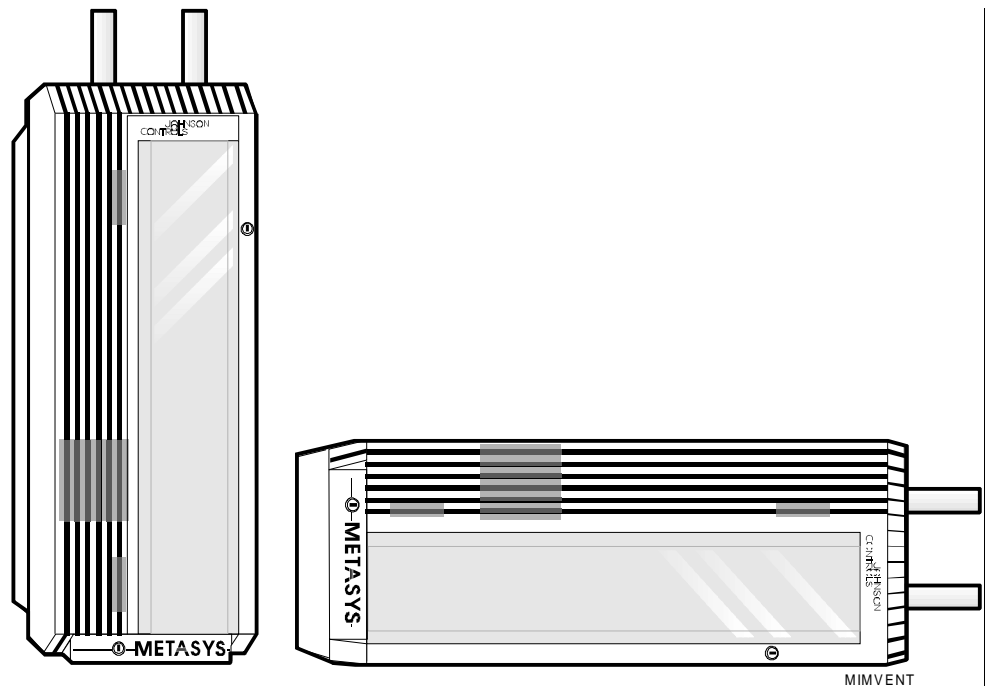

Figure 6: Vertical/Horizontal Mounting
Allow enough room to install the enclosure and conduit for wiring terminations to the controller. Figure 6 shows a common mounting configuration for the PHX.
- Door vents must be on the upper half of the unit for horizontal mounting. See Figure 6.